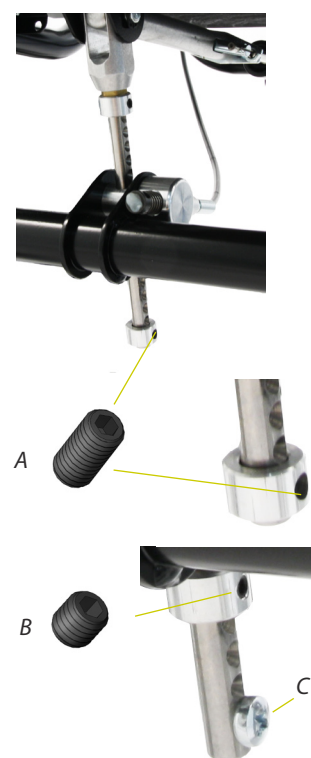

Fig 6
2. Loosen the set screw (A, fig 6) that holds the stop ring in position.
3. Move the stop ring to the desired position. **Read carefully** in 95758-1 which position is correct for different wheelchair configurations. Note that if the stop ring is moved up from the lowest hole a screw (C) must be placed in that hole and the set screw (A) must be replaced by a shorter version (B), and vice versa.